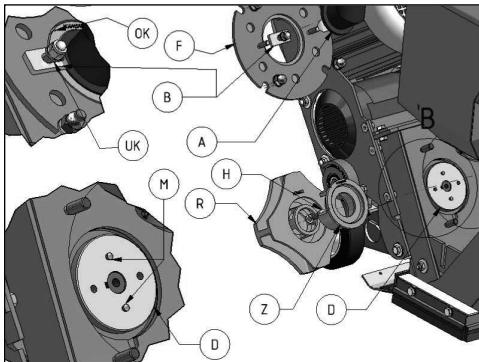

FIG. 5
Mounting (Figure 5)
1. Clean all threads and use a new blast wheel retaining bolt. Place blast wheel (R) on the wheel hub (D) through the blast housing opening so the wheel fits with the adapter pins (M). Tighten the blast wheel by the retaining bolt(H).
2. Re-attach the front cover plate (F) using the four washers and acorn nuts.
3. Insert the control cage (Z) in the center and clamp the control cage with the cage clamps (B) so that the blast wheel can rotate free with an overall clearance of 1/8" (3 mm) to the impeller. The blast wheel must rotate freely.
4. Preset the notches or guide lines, on the face of the control cage, to the 9:00 and 11:00 positions (OK and UK respectively) as shown in Figure 5.
- Place the feed spout (A) in the housing.